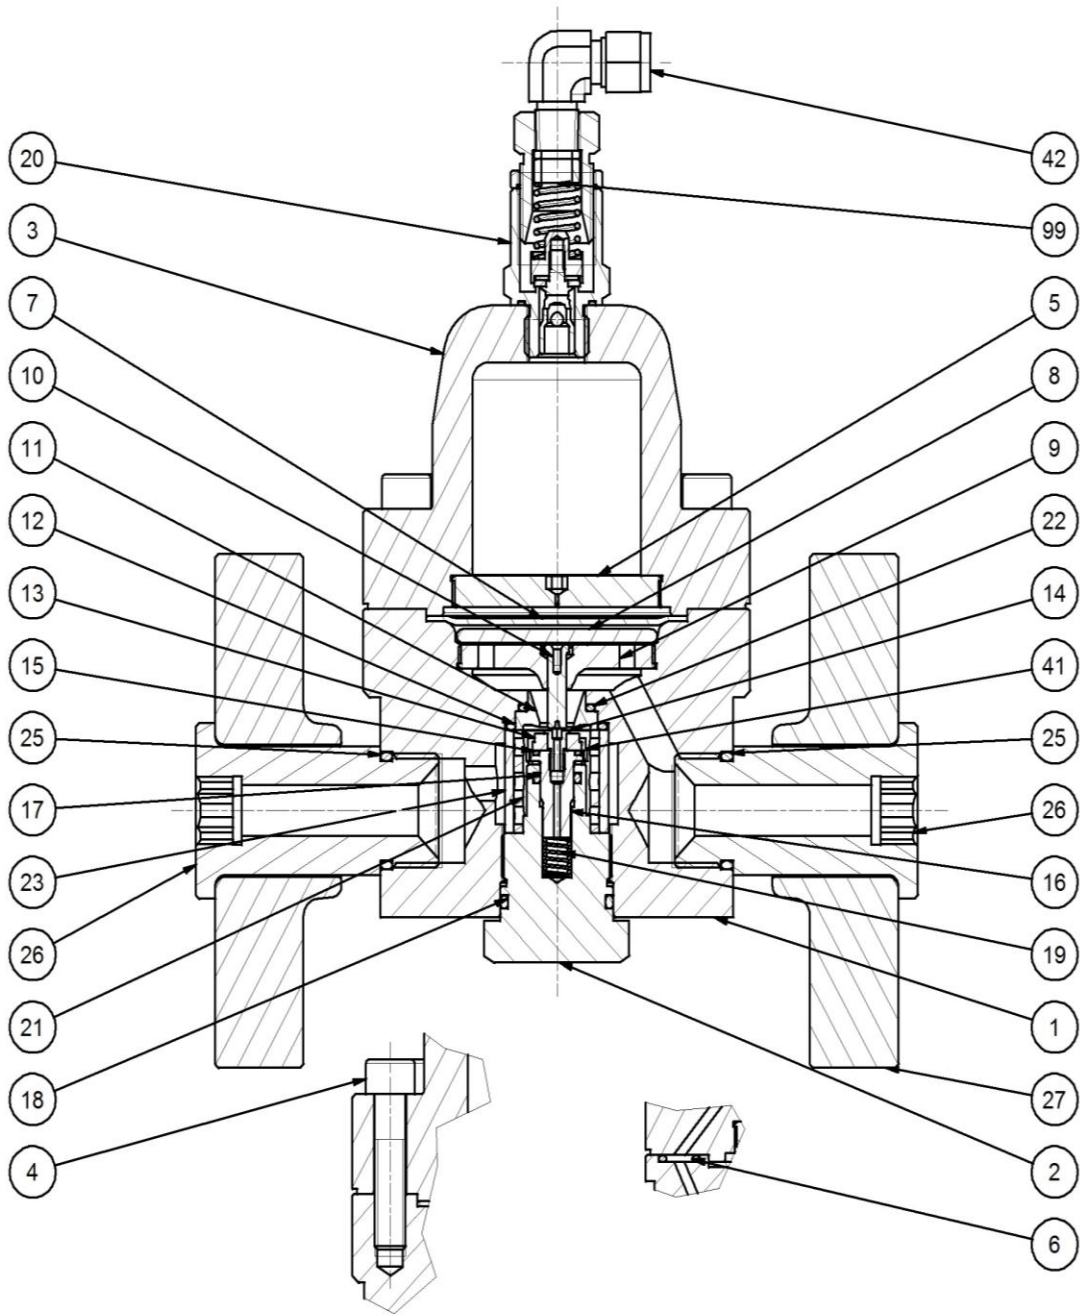

fig. 6
5.1 REGULATOR STAFLEX MINI (FIG. 6)
Procedure for disassembling, complete replacing of spare parts and reassembly of the gas pressure regulator STAFLUX MINI (fig. 6).